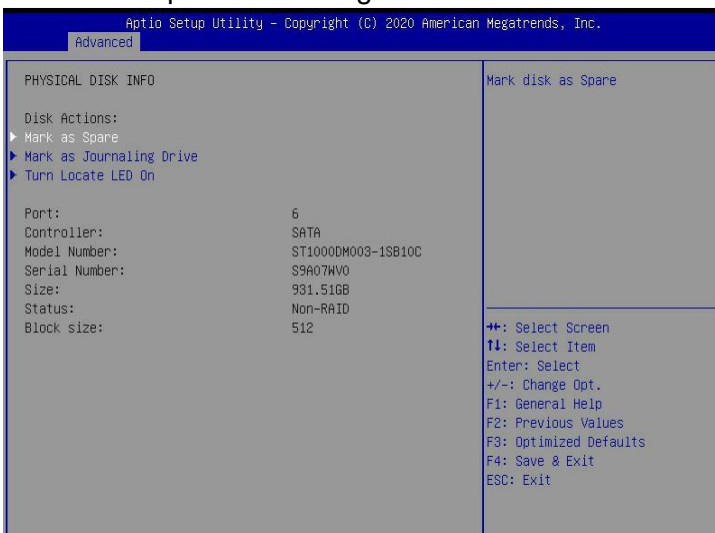

Figure 6-9
b) Enter the interface shown in Figure 6-9, select "Mark as Spare", and press Enter.
✧ Figure 6-9 Hot spare disk configuration interface